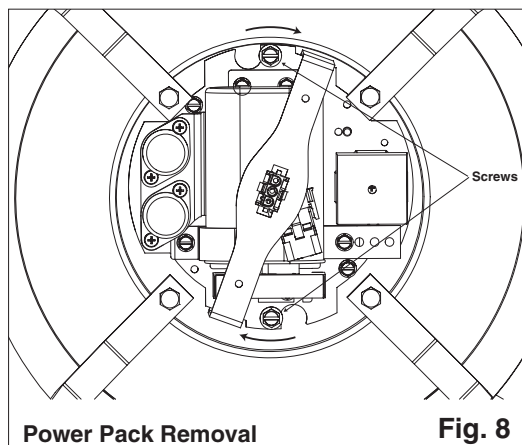

Fig. 8
8. Holding the handle, loosen the two screws holding the power pack to the fixture housing. See Figure 8.